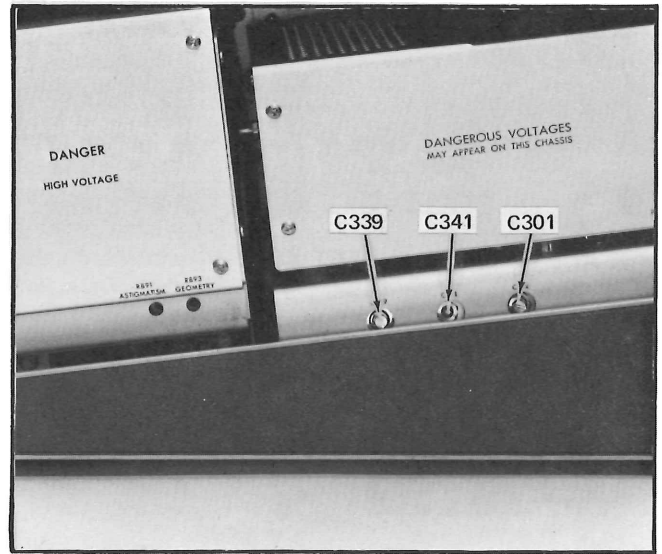

Fig. 1-9. Location of adjustments in step 16.
e. ADJUST—C301, LOOPING BALANCE ADJUSTMENT (See Fig. 1-9), and the front panel LOOPING COMPENSATION control for minimum vertical width.
h. ADJUST—C339, 350 V and 1500 V LOOPING COMPENSATION adjustment (see Fig. 1-9) for minimum vertical width.
l. ADJUST—C341, H. F. NOISE REJECTION adjustment (see Fig. 1-9), for minimum deviation of line. Typical setting of C341 is almost fully counterclockwise. Adjust front-panel LOOPING COMPENSATION control if necessary to get a display.